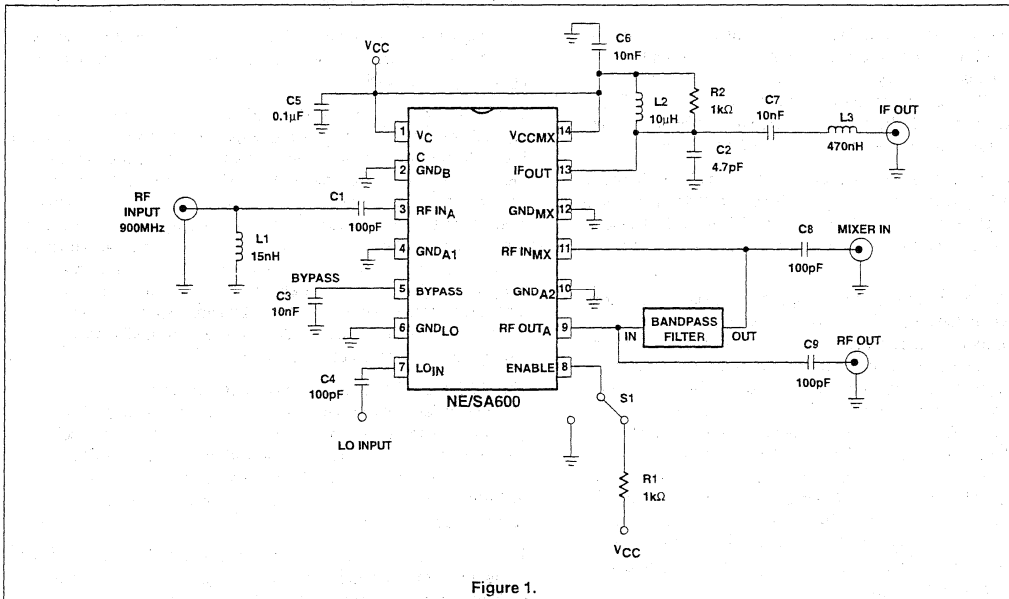
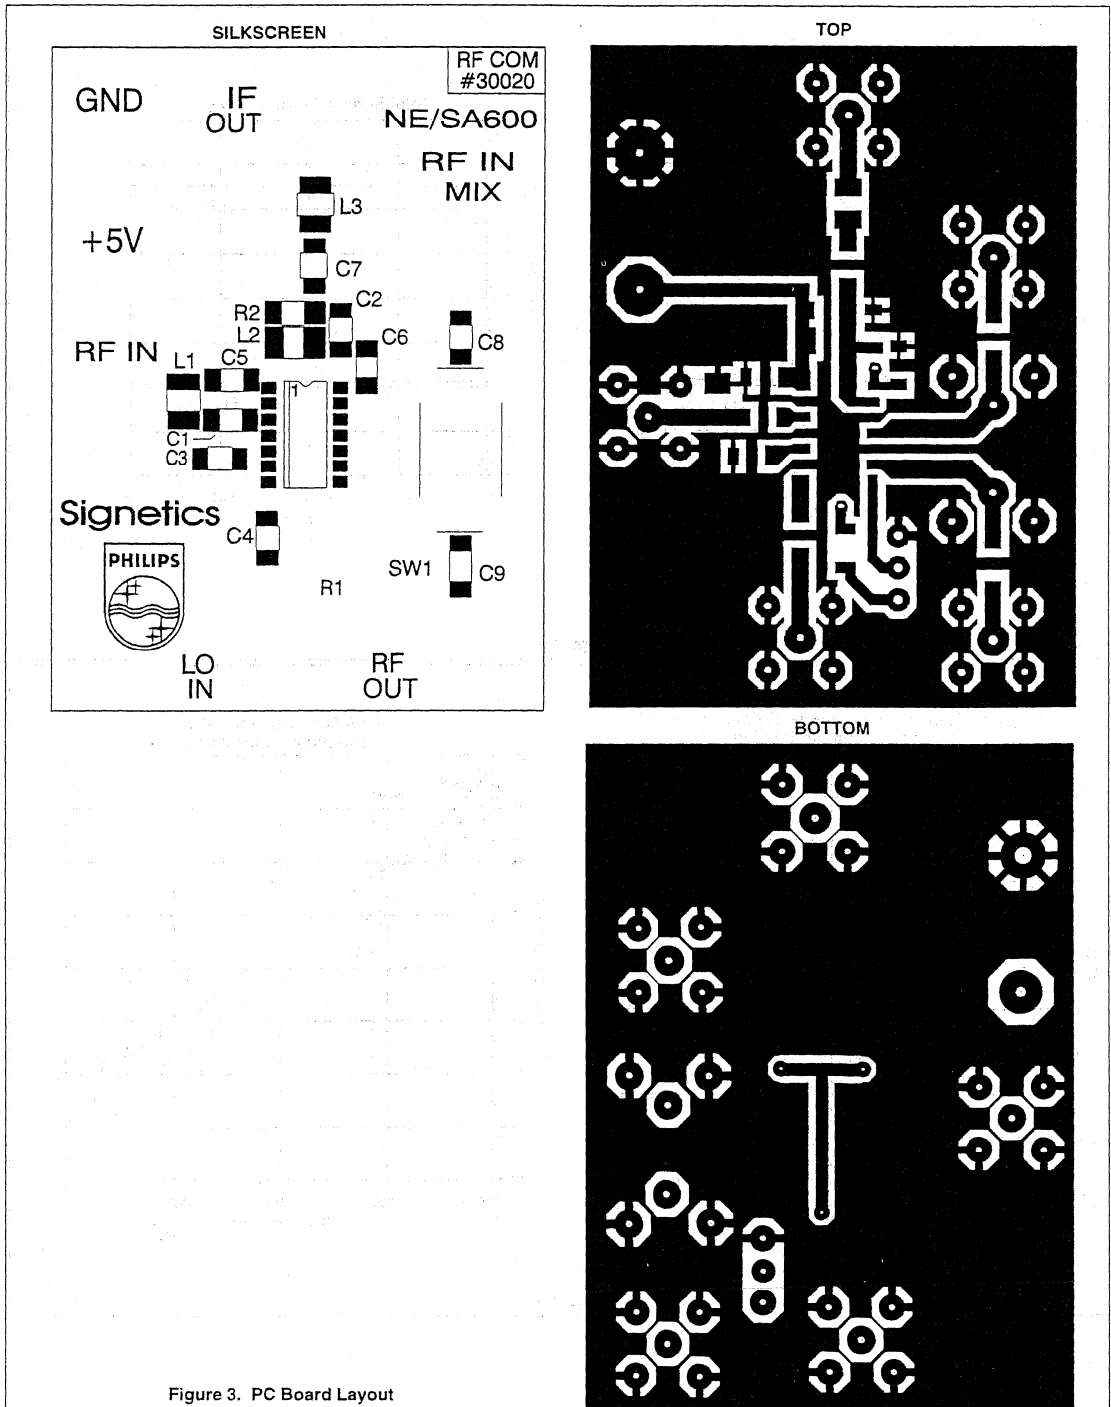

Figure 1.
Figure 3. PC Board Layout
$4.5 \leq V_{CC} = V_{CCMX} \leq 5.5V$ , Test Fig. 1, unless otherwise specified
4.5 ≤ VCC = VCCMX ≤ 5.5V, Test Fig. 1, unless otherwise specified
The NE/SA600 applications evaluation board schematic is shown in Figure 1. The VCC (Pin 1) and VCCMX (Pin 14) are tied together and the power supply is bypassed with capacitors C5 and C6. These capacitors should be placed as close to the device as practically possible.
The printed circuit board layout for the schematic of Figure 1 is shown in Figure 3. It is a very simple printed circuit board layout with all the components on a single side. The layout also accommodates a two pole image reject filter between the LNA output and mixer input. All the input and output traces to the LNA and mixer should be 50 $\Omega$  tracks with the exception of mixer output, which can be very narrow due to the higher impedances of the filter.